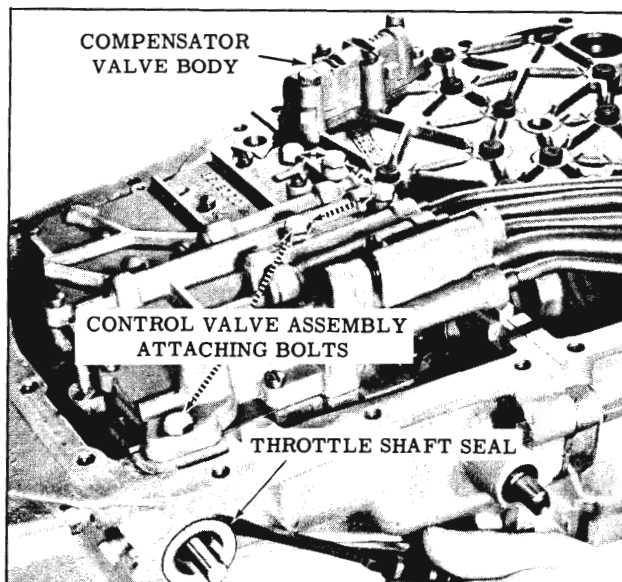

Fig. 3-21 Valve Bodies and Seal
6. Pry T.V. shaft seal from side of rear bearing retainer. (Fig. 3-21)
7. Remove 5 control valve assembly attaching bolts and carefully remove control valve assembly from the pipe assembly and rear bearing retainer. (Fig. 3-21) DO NOT DROP THE MANUAL VALVE.
9. Remove the compensator valve body assembly from the servo and accumulator cover by removing 1 bolt and 3 screws. (Fig. 3-21)